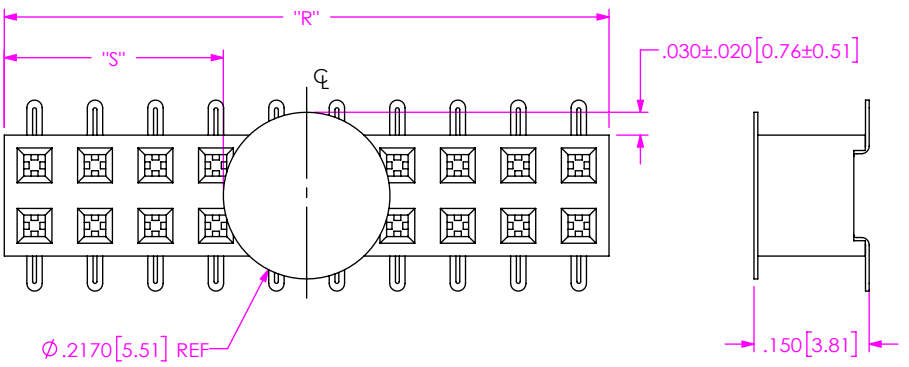

FIG 4
-K: POLYIMIDE FILM (USE K-DOT-217-.313-.005) (2 POS MIN, SEE FIG 4, SHT 2) (AVAILABLE ON LEAD STYLE -02 ONLY)